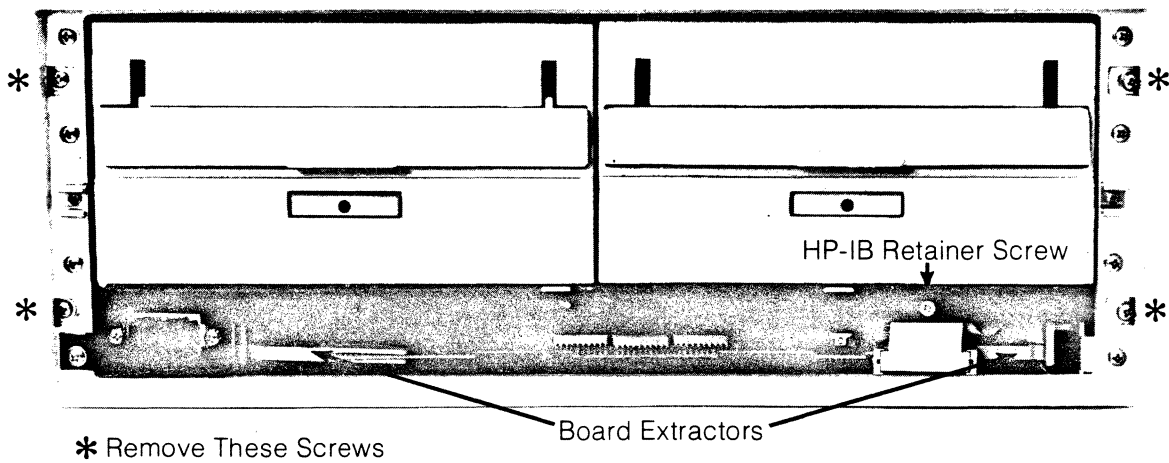

Figure C-2. Front Panel Removed
4. Remove the four recessed screws (two per side) on the exposed front panel as shown in Figure C-2.
8. Place the unit in the rack and secure it to the rack using the screws provided in the same recessed holes shown in Figure C-2. Again, do not support the unit by the front panel only. The rack must have a shelf, side rails, or a rear support at a minimum.
6. Point the board extractors (see Figure C-2), located at the front corners of the controller board, straight out and then push the controller board as far into the unit as possible. Push the extractors flat into the controller board, thus seating the controller board the rest of the way into the unit.
5. Remove the four recessed screws (two per side) on the exposed front panel as shown in Figure C-2.
12. Remove the controller board by pulling out on the board extractor (see Figure C-2) at each front corner of the controller board.
22. Point the board extractor (see Figure C-2), at either front corner of the controller board, straight out and then push the controller board as far into the unit as possible. Push the extractors flat against the controller board, thus seating the controller board the rest of the way into the unit.
28. Re-install the screws previously removed from the front panel recessed positions (see Figure C-2).